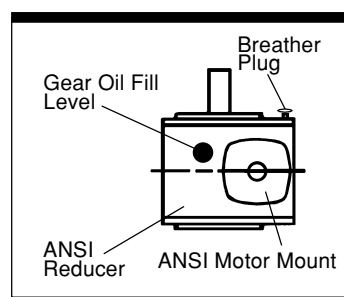

Figure 4-1.
► Check the level of gear oil before draining (see Figure 4-1). If the level is low, check the reducer's input and output shaft seals for leaks.
install it, or the breather hole may leak (see Figure 4-1). Recommended gear oil is listed in Chapter 4.